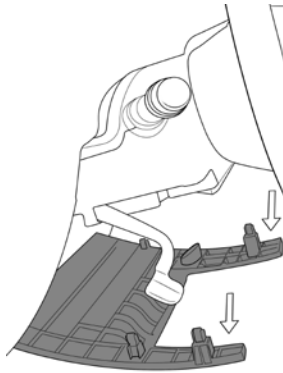

Figure 48
- b. Remove the knee panel located under the steering column (fig 48).